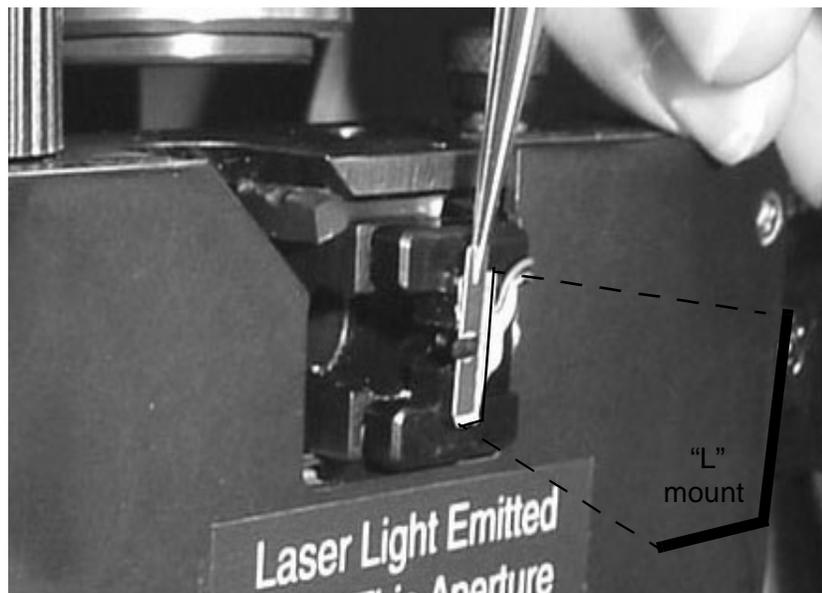

**Figure 2.20.** Nudge the probe into position.
- a) Use tweezers to nudge a probe so that the substrate extends over the edge of the magnetic strip in the probe box (Figure 2.20).